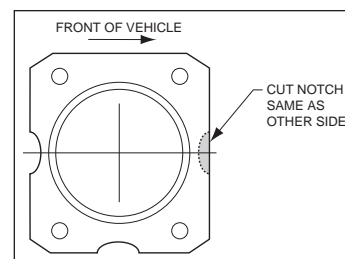

Figure 4. Flange Modifications
- Axle housing flange may need to be modified by grinding. A relief, the same dimension as the OEM relief at the rear of the housing must be present at the front (of vehicle) side of the housing flange, see Figure 4. This is necessary in order to reinstall the OE wheel speed sensor onto the new backing plate assembly.